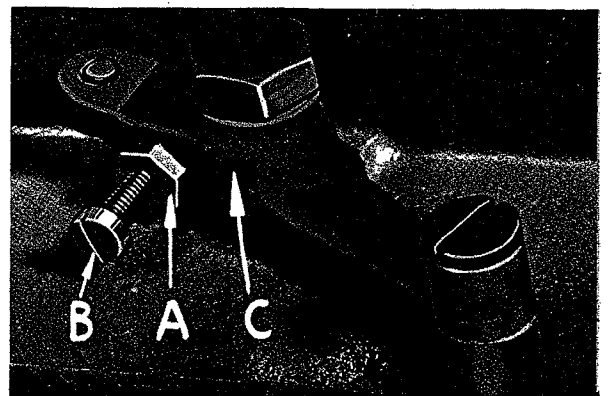
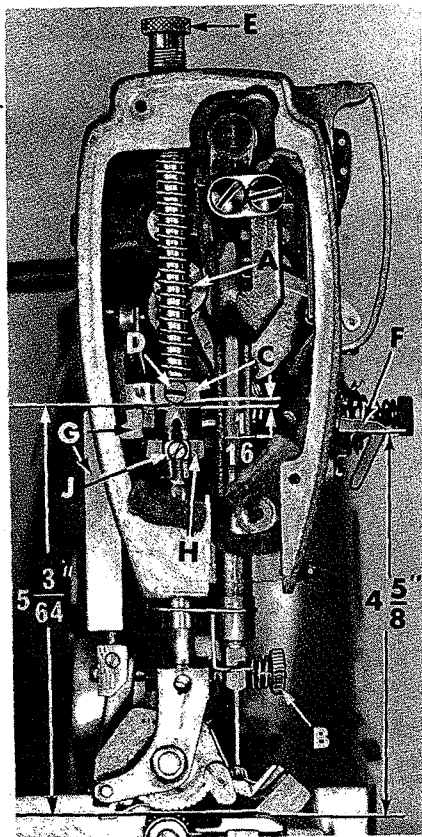

Fig. 16
Fig. 17
The presser spring (A, Fig. 17) should exert only enough pressure on the feed rollers to make the work feed uniformly. To increase the pressure on the presser foot, turn presser spring regulator (B, Fig. 17) in a clockwise direction. Turning the regulator counterclockwise decreases the pressure.
When locating presser bar guide (C, Fig. 17) presser foot must rest directly against throat plate. Proper setting of guide is  $5 \frac{3}{64}$  inches between underside of presser bar guide and the top of throat plate (Fig. 17). To obtain this setting, remove pressure from presser spring (A) and loosen set screw (D). Tap on presser foot to insure it is down against throat plate. Set guide to the  $5 \frac{3}{64}$  inch dimension, center foot by turning it so needle enters the middle of its slot and retighten screw (D). Apply pressure to top feed roller by turning regulator (E) clockwise.
Set needle thread pull-up bracket (F) so that underside of wire is  $4 \frac{5}{8}$  inches above throat plate (Fig. 17).
Presser bar connection (G, Fig. 17) should be set about  $1/16$  inch below presser bar guide (C). Accomplish this by loosening lock nut (A, Fig. 16), and relocating stop screw (B) on lift-er lever bell crank (C), located at the back of machine, under bed plate. Turning stop screw to right or left, properly sets presser bar connection. Tighten lock nut (A) to lock stop screw.
Tension release should be set so as not to release when sewing over seams or when presser foot is raised. Adjustment of tension release cam (H, Fig. 17) and in and out position of tension assembly are required for proper operation.
The tension release cam (H, Fig. 17) should now be positioned by loosening set screw (J) and then raising or lowering cam (H) to suit the sewing conditions. The average release point is between 1/4 and 5/16 inch of presser foot lift above the throat plate. Tighten tension release cam set screw securely.